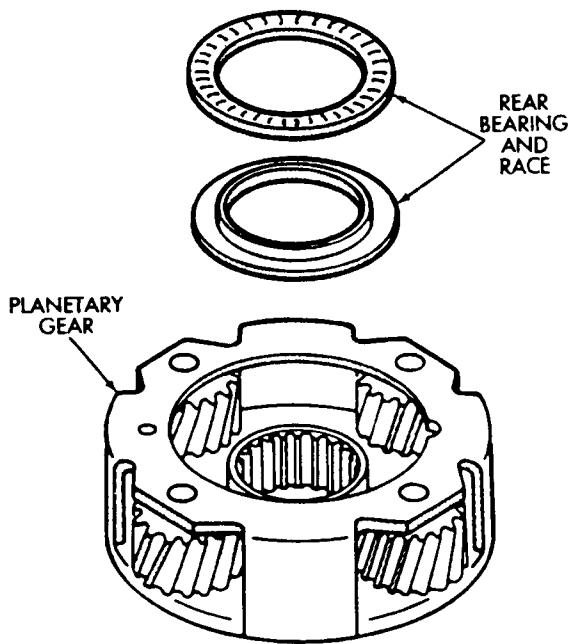

Fig. 2 Installing Front Planetary Rear Bearing and Race
- (3) Install rear race and bearing in gear (Fig. 2).
(1) Hold sun gear and turn second brake hub clockwise and counterclockwise (Fig. 2). Hub should rotate freely clockwise, but lock when turned counterclockwise. Replace one-way clutch and hub if it does not operate properly.